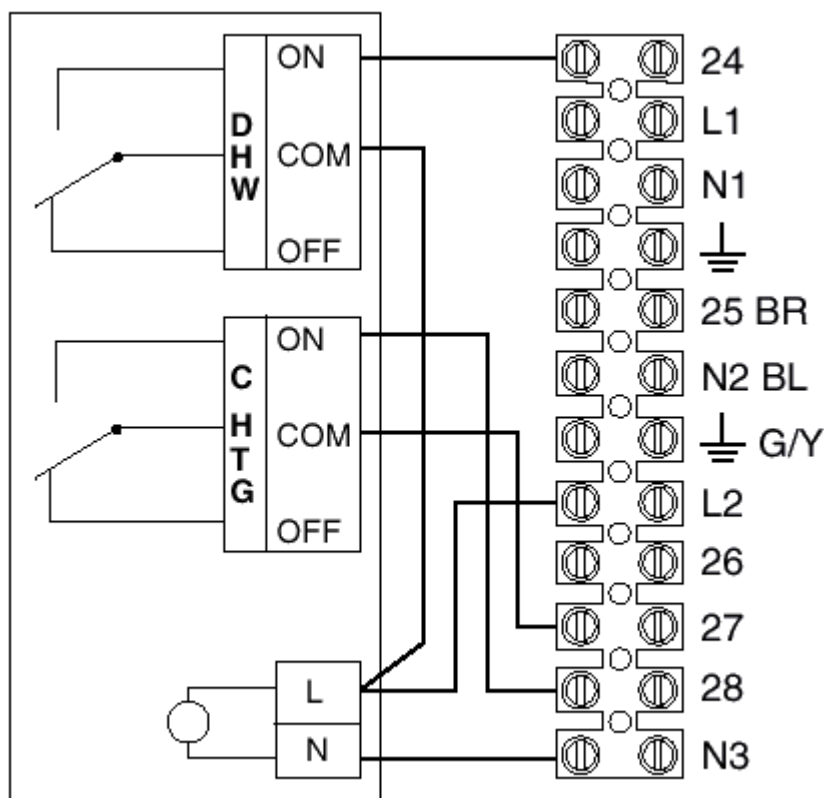

Fig. 10.3
4. b. Alternatively choose a twin channel programmer that has volt free contacts, as provided by programmers which use the British Gas standard wall plate configuration and a pumped/gravity option which should be set to "gravity". See Fig. 10.3. Power the programmer from terminal L2 and link to one side of the programmer's hot water relay contacts. Connect the switched hot water contact to terminal 24. To wire the central heating channel, remove link wire (terminals 27 and 28) and connect the programmer's CH relay contacts to terminals 27 and 28. NB The appliance switch must be kept in the OFF position otherwise the DHW remains permanently switched on. The central heating switch should be On to obtain timed switching.